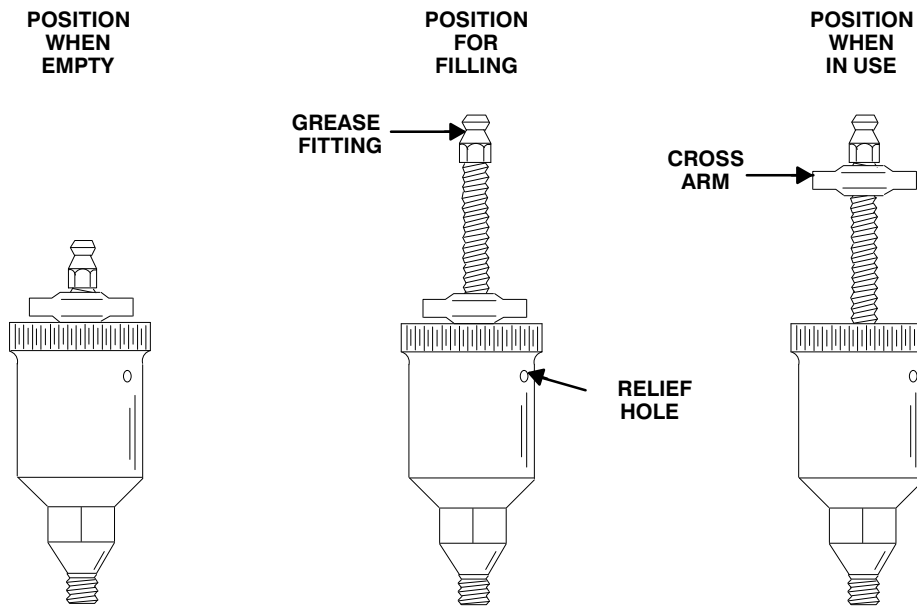

Figure 4. Automatic Lubricating Grease Cup
Before removing the impeller, turn the cross arm on the automatic grease cup (14) clockwise until it rest against the cover (see Figure 4). This will prevent the grease from escaping when the impeller is removed. Remove the grease cup.
Fill the grease cup (14) through the grease fitting with No. 2 lithium base grease until grease escapes from the relief hole. Turn the grease cup arm counterclockwise until it is at the top of the stem; this will release the spring to apply grease to the seal (see Figure 4).